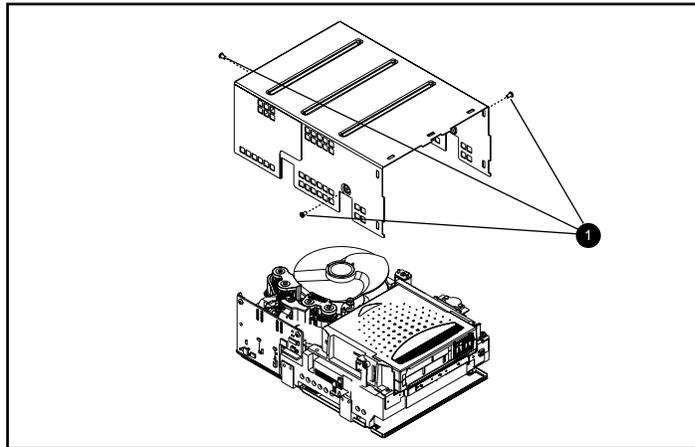

Figure D-2. Removing the cover
The SDLT 110/220 cover is secured to the drive with three screws. Two screws are located on either side of the drive and the third is located at the back of the drive. To remove the cover, remove all the screws ❶ with a Torx T8 screwdriver and lift the cover upward (see Figure D-2).